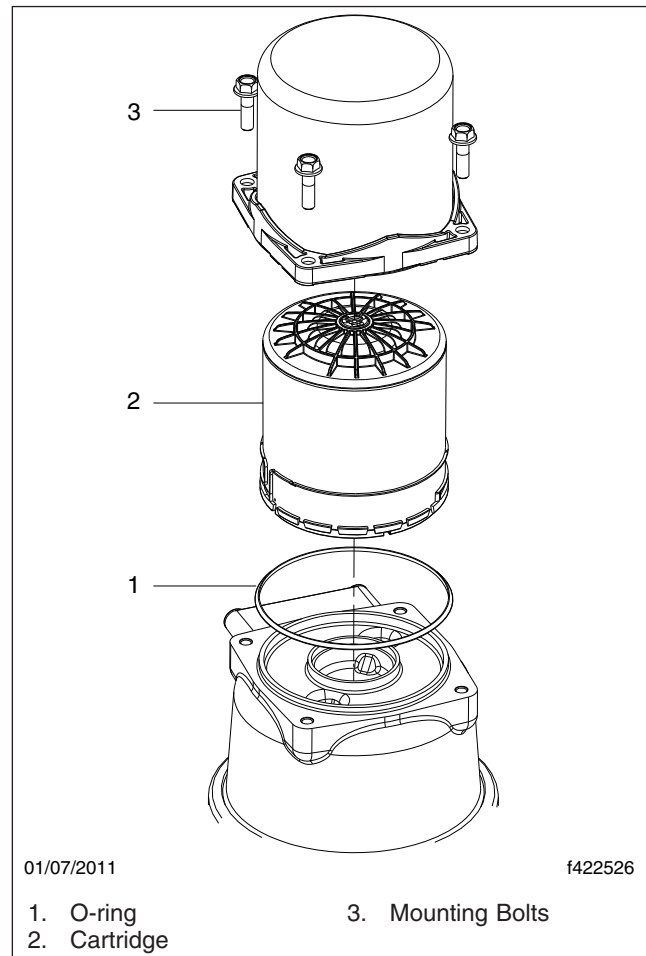

Fig. 1, PURest Air Dryer Assembly
2. Remove the four mounting bolts and discard. See **Fig. 1**. Lift the canister about 1/2 inch and remove.